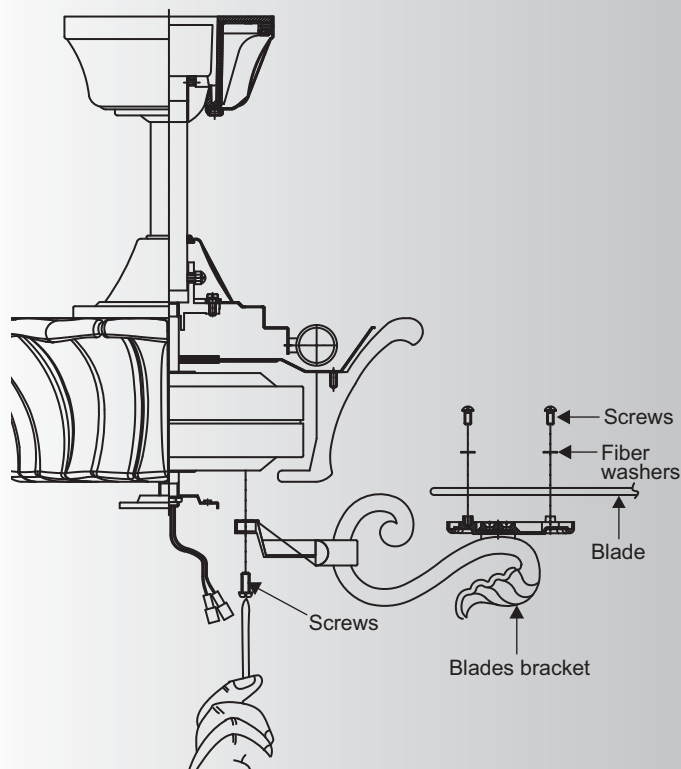

Fig. 16
Step 1 Attach the blade to the blade bracket using the screws and fiber washers as shown in Figure 16. Start screw into bracket. Repeat for the two remaining screws.